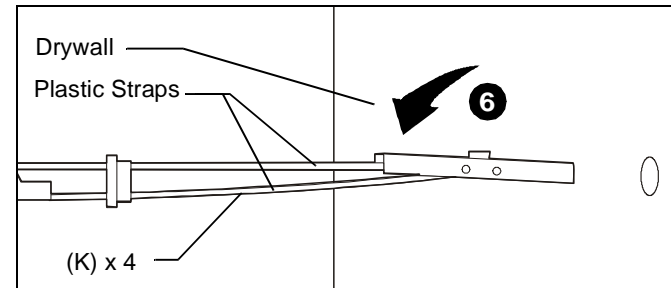

Figure 30
6. Hold metal channel on anchor (K) flat alongside plastic straps and slide channel through hole. (See Figure 30)